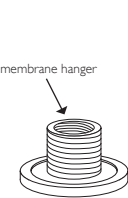

Fig. 4.1
- 4. Remove the nut and the washer on the top of the tank which is attached to the membrane hanger that is anchoring the top of the membrane (fig. 4.1, fig. 4.4).